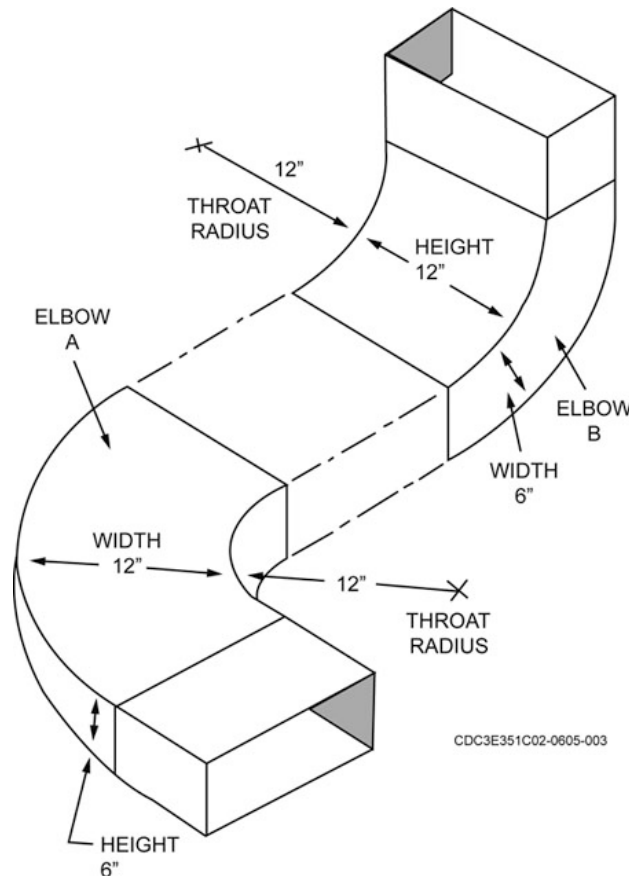

Figure 1-3. Rectangular duct elbows.
The elbows in square or rectangular ducts have a dimensioning characteristic you must understand if you want maximum airflow. This characteristic concerns the elbow width, which is somewhat different from the straight duct section width. Figure 1-3 shows two elbows in a rectangular duct. Notice that the elbow width in A is 12 inches, and the elbow width in B is 6 inches.
Elbow A in figure 1-3 produces more turbulence and resulting pressure loss than elbow B. This is due to the ratio between the throat radius (R) and the elbow width (W). A ratio among 1 to 1 and 2 to 1 is best, with 2 to 1 being more desirable. The throat radius ratio is also called the inside radius ratio. We can determine it by dividing throat radius (R) by width (W). For example, the inside radius ratio for elbow A is 1 to 1. We determine this by substituting the width and throat radius dimensions ( $R/W = 12/12 = 1/1 = 1$ ). In speaking of ratios, it's common practice to use the equivalent value, such as  $1:1 = 1$ . Thus, a ratio of 2 to 1 is a ratio of 2, and a ratio of 1 to 2 is a ratio of 0.5, and so forth. Elbow B in figure 1-3 has an inside radius ratio of 2, or  $R/W = 12/6 = 2/1 = 2$ , which is more desirable than a ratio of 1. Both elbows in the illustration have satisfactory airflow, although elbow B has better airflow.